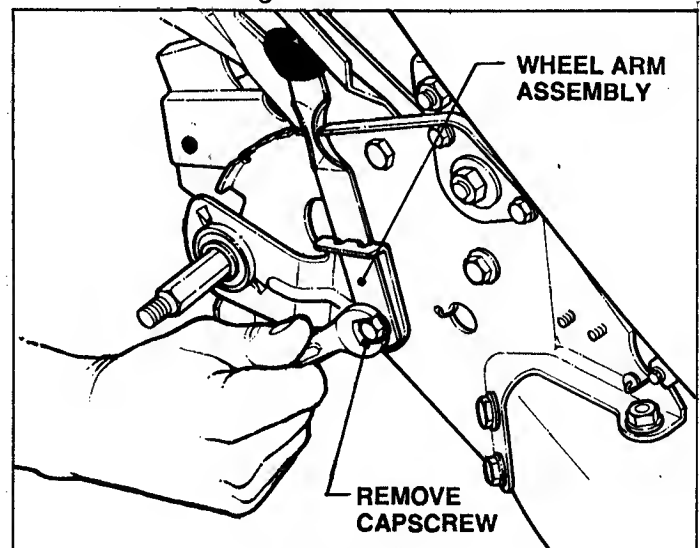

FIGURE 4.1A
4. Remove wheel arm assembly on left side. See Figure 4.1A.